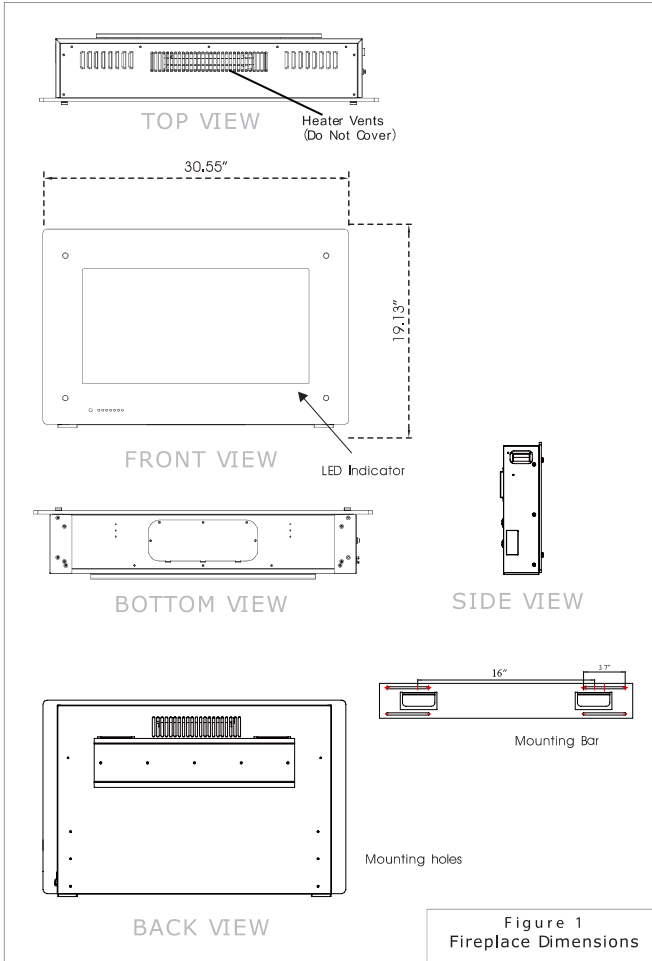

Figure 1
! **WARNING:** Heater vents (see Figure 1, page 8) on this electric fireplace cannot, in any way, be covered as it may create a fire hazard.
1. Place fireplace on a flat, level surface (FIG 1).
4. Remove the 5 screws holding the access plate in position (FIG1). Once you have removed the 5 screws, lift the access plate so the 3 positioning tabs come free of their slots. Once you have removed the access plate you can see and access the two 40 watt chandelier bulbs (FIG 2).